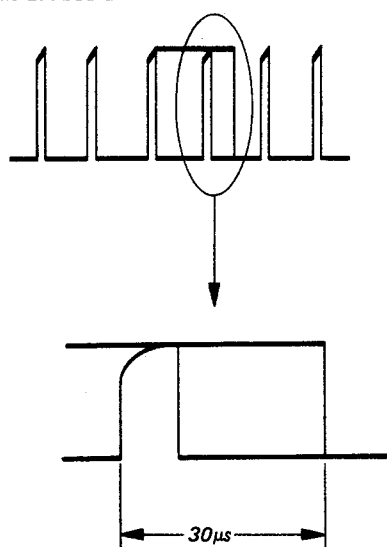

Fig. 5-97.
5. Adjust RV4 on the BA board so that the output waveform is as shown in Fig. 5-97.